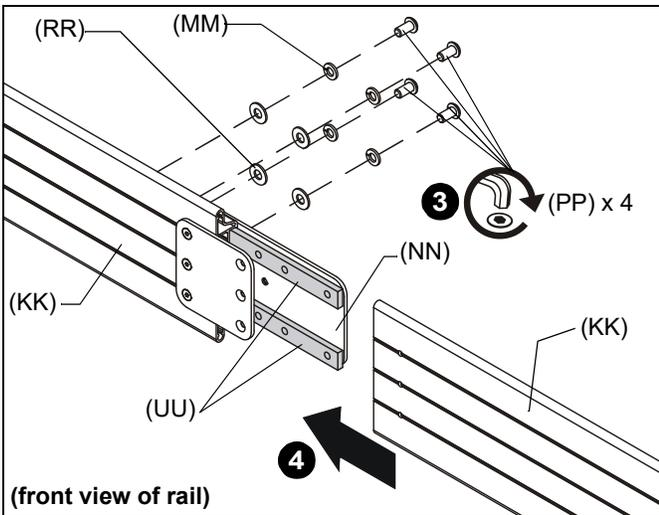

Figure 9
3. Additionally fasten connector plate (NN) using four 5/16 x 5/8" button head cap screws (PP), four 5/16" split washers (MM), and four friction washers (RR). (See Figure 9)
4. Slide second section of mounting rail (KK) over tie bars (UU) and bring it flush to first section of mounting rail. (See Figure 9)